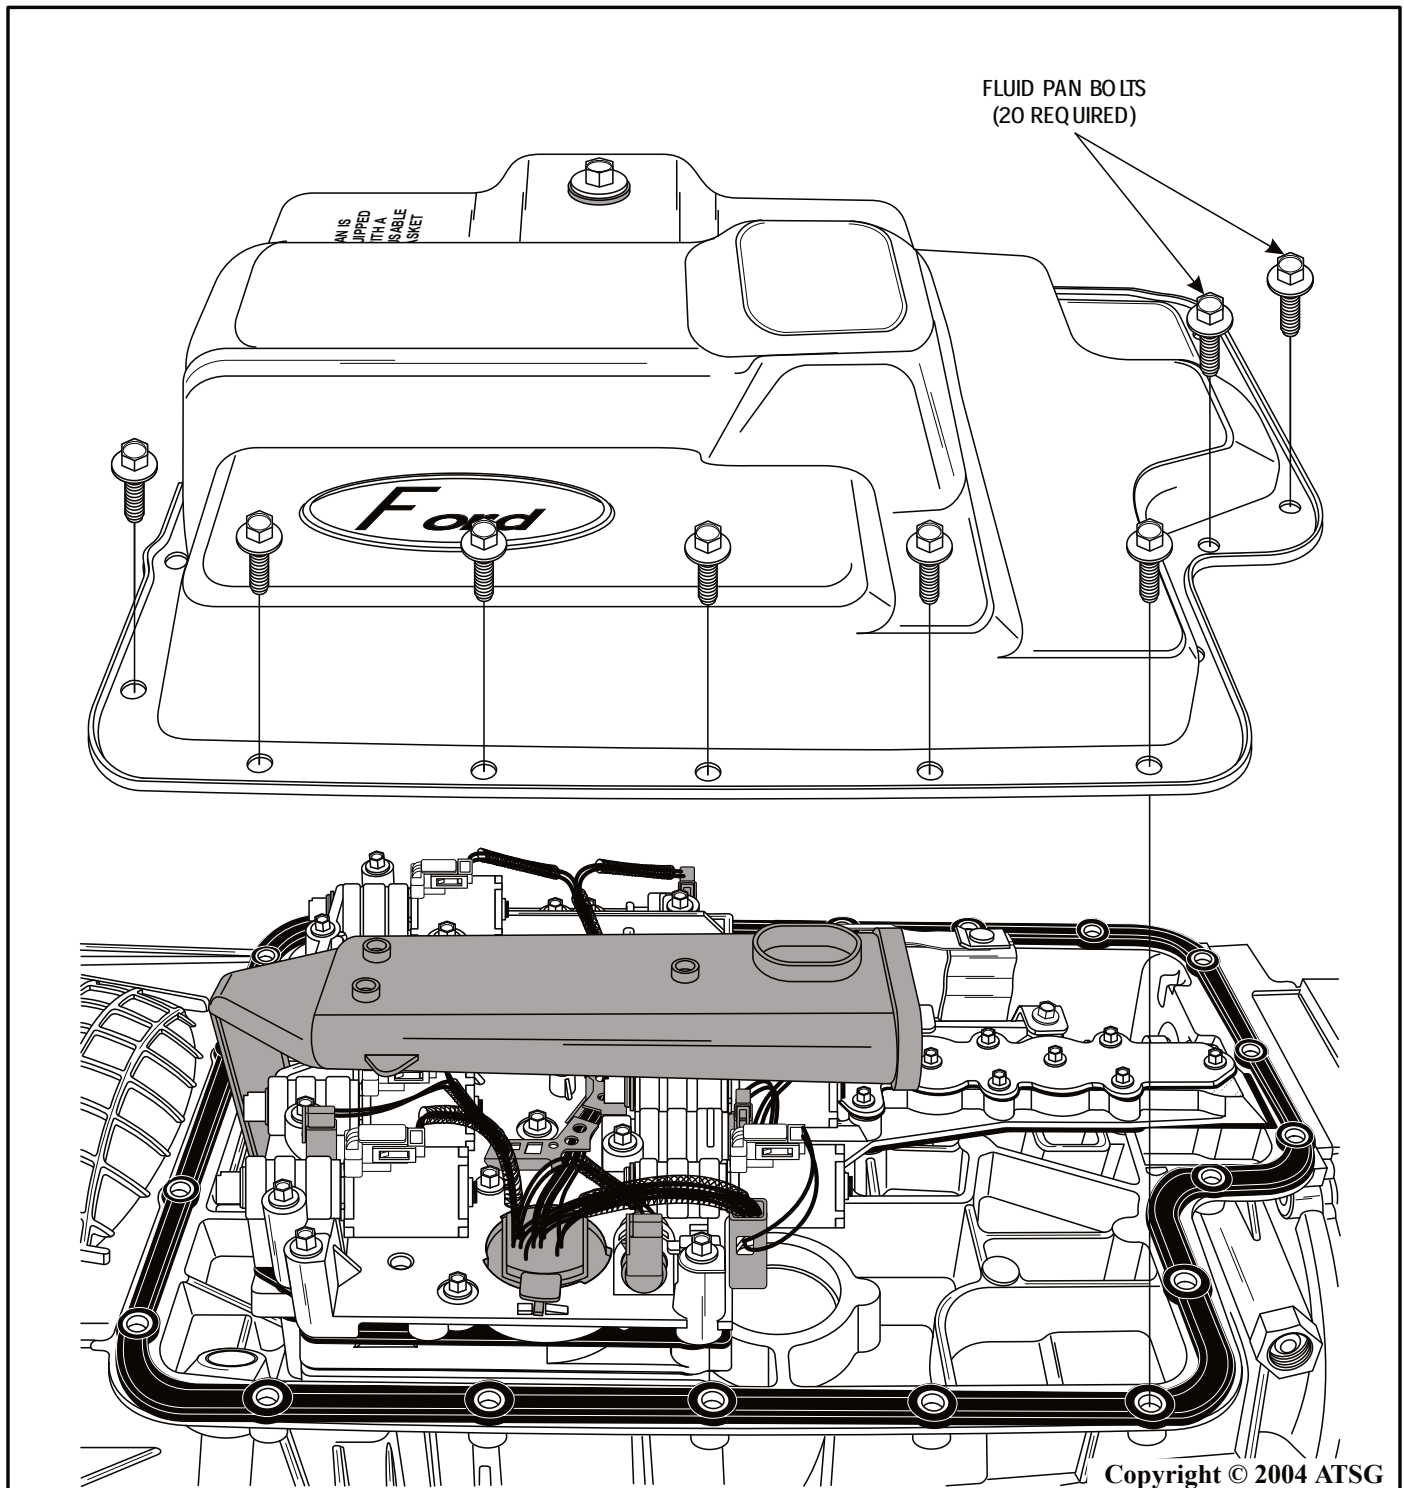

Figure 31
9. Rotate the transmission so that the bottom pan is facing up, as shown in Figure 31.
10. Remove the twenty oil pan bolts, as shown in Figure 31, and remove the oil pan.